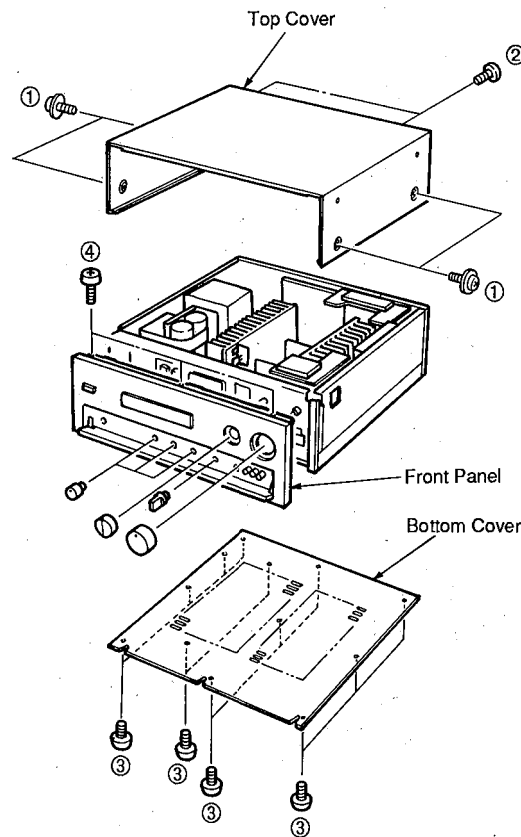

Fig. 1
- a. Remove 4 screws (1) and 2 screws (2) and then remove the Top Cover in Fig. 1.
- a. Remove 12 screws (3) and then remove the Bottom Cover in Fig. 1.
- a. Remove 6 knobs in Fig. 1.
- b. Remove 3 screws (4) and then the remove the Front Panel in Fig. 1. For this removal, also remove connectors (#7, #9—#14) as necessary. (Refer to Fig. 4 Bottom Side Wire Connection Diagram.)